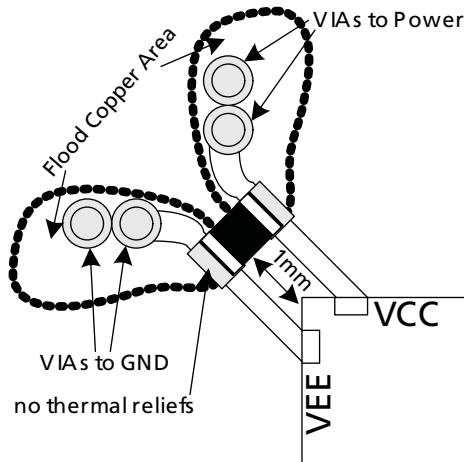

Figure 1-1: Local Decoupling of the GS2985
- It is recommended to decouple each power supply pin individually with a 10nF capacitor. All decoupling capacitors should be placed as close as possible to the power and ground pin pairs of the GS2985. Please see Figure 1-1 below. Wherever possible, use two vias for each VCC and GND pin and flood the copper area